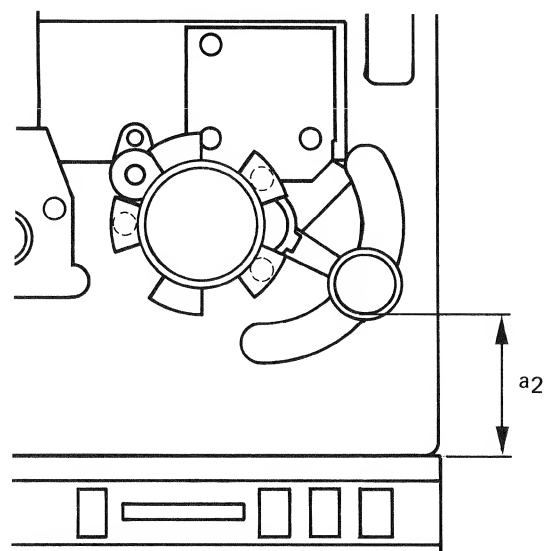

Fig. 5.3.—2
- Left-hand tension sensor: adjust potentiometer R3 (fig. 5.3.—1) until the distance  $a_1$  from the upper edge of the press button rail to the sensing arm is 46 mm (1 13/16").
- Right-hand tension sensor: adjust potentiometer R3 (fig. 5.3.—2) until the distance  $a_2$  from the upper edge of the press button rail to the sensing arm is 50 mm (1 31/32").